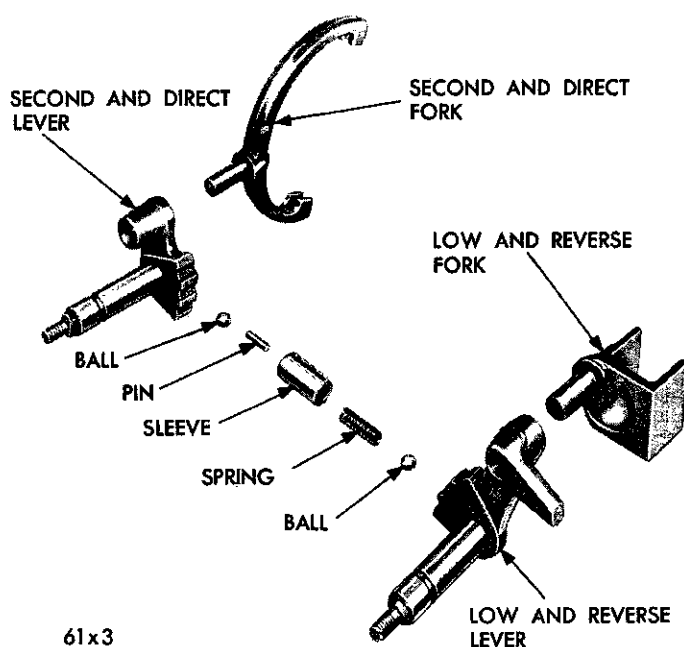

Fig. 8—Gearshift Forks and Shafts
Gearshift Mechanism (Fig. 8)
(6) Remove the detent ball installing tool.
(7) Install the low and reverse lever shaft lock pin in the case, driving it down firmly from the top using the caution as stated above.
(8) Place the low and reverse fork in the lever shaft, with the offset toward the rear of transmission (Fig. 8).